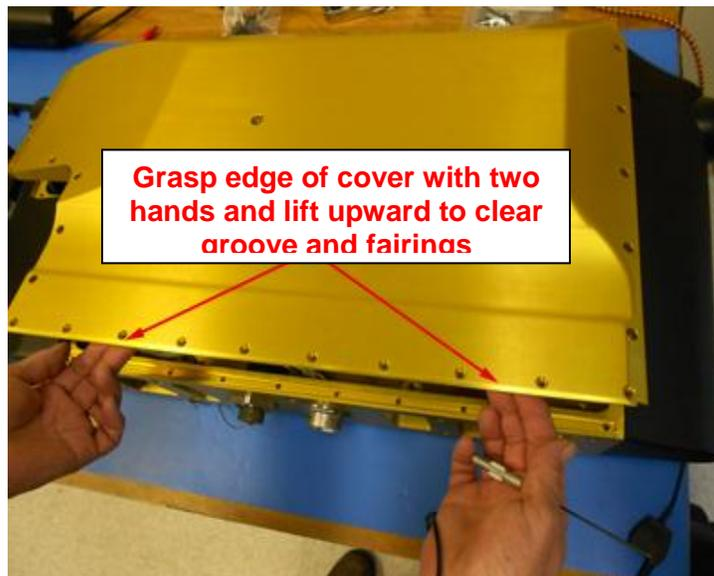

Figure 3.3.4. Gradually lift the pylon cover upward.
4. Verify that all 32 fasteners and the one center fastener have been removed from the pylon cover. Using the edge of the cover, gradually lift the pylon cover upward (**Figure 3.3.4**). Take care not to damage the tongue or O-ring on the pylon cover. Very little force should be required to lift the tongue on the pylon cover from the groove on the pylon body.